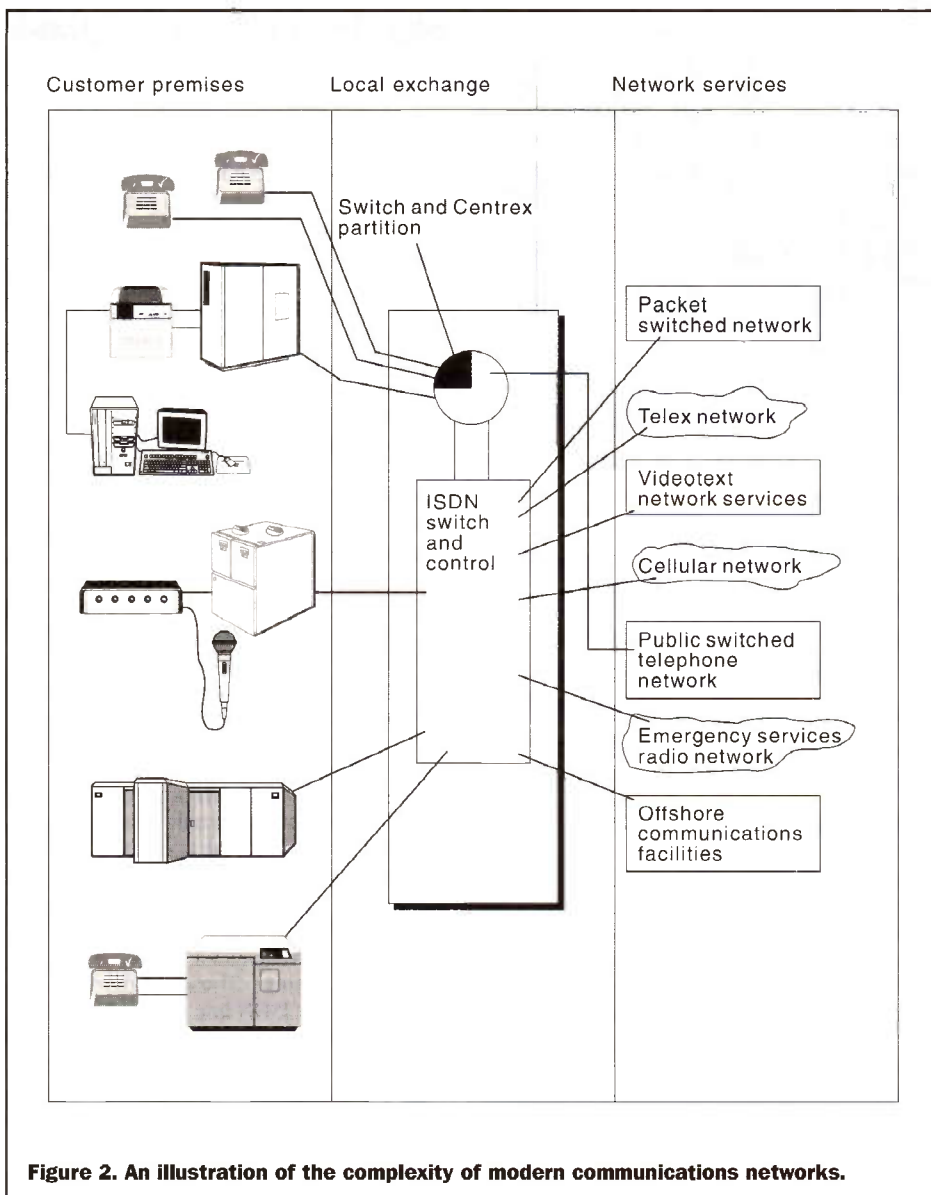

Figure 2. An illustration of the complexity of modern communications networks.
Figure 2 gives some idea of the complexity of modern communications systems and facilities, highlighting the problems of present-day traffic management. How do you, for example, route telecommunications and computer traffic across the complex, multi-service network shown above, which is by no means as massive as some systems?
At the British Telecom (BT) research laboratories at Martlesham Heath, electronics physicists and engineers are currently experimenting with genetic algorithms in an attempt to find solutions to the sort of problems created by the complexities of Figure 2. Yet, no matter what solution is eventually chosen, I suspect that the world's major telecommunications providers will still be having a Baud in the user's Erlang for some years to come! **ELECTRONICS**